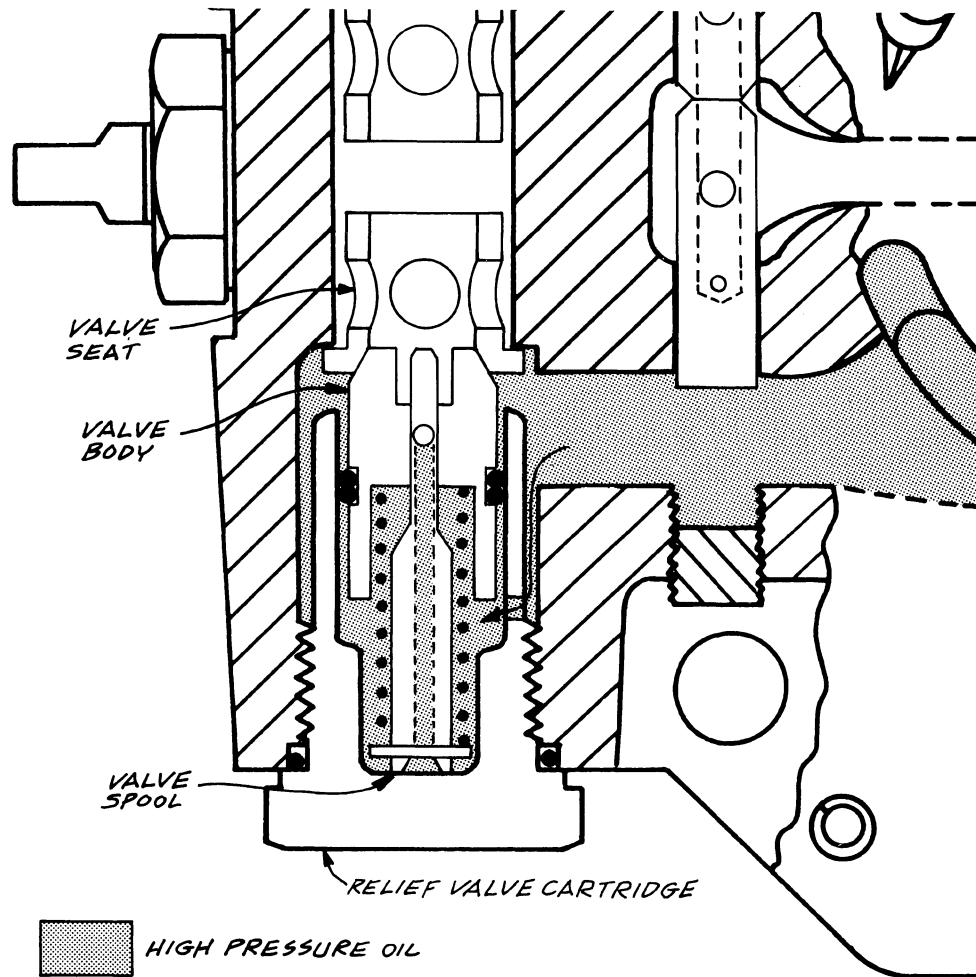

FIGURE 10
- (1) When the machine goes onto soft ground, up grade, or over obstacles, pressure will increase above normal in the **high** pressure side of the closed loop.
- (2) Oil from the closed loop enters the relief valve cartridge through a small hole at the end of the threads. This internal oil exerts pressure on the relief valve body and spool, Figure 10. Pressure of this **internal** oil (plus force of the valve spring) balances the pressure of oil on the **outside** of the valve. The body is held against the seat in normal operation.